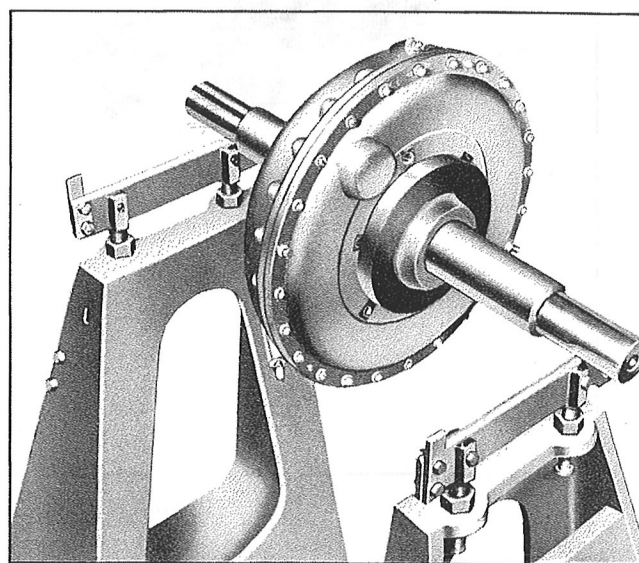

Figure 210—Regulator Balancing
*Step 5.*—Place the assembly on the balance stand and square up the arbor on the balance ways. See Figure 210.